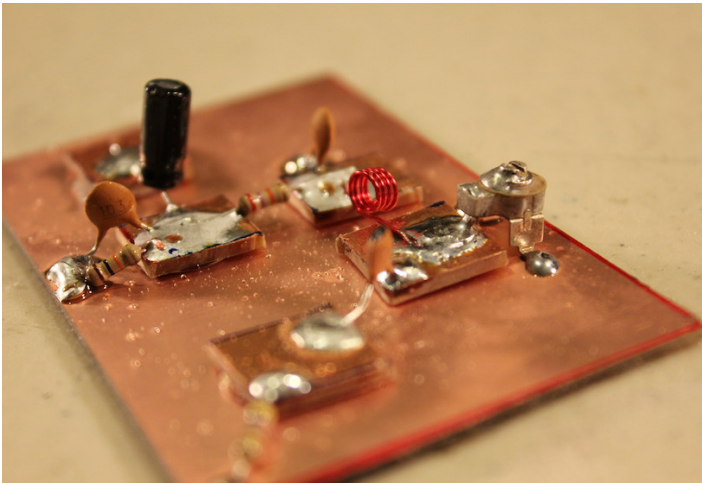

Figure 14
- o Solder the "nose" of the capacitor (the lead in the middle that is different from the other two) to the square, and the other two side leads to the ground plate. (See figure 14 and 15)